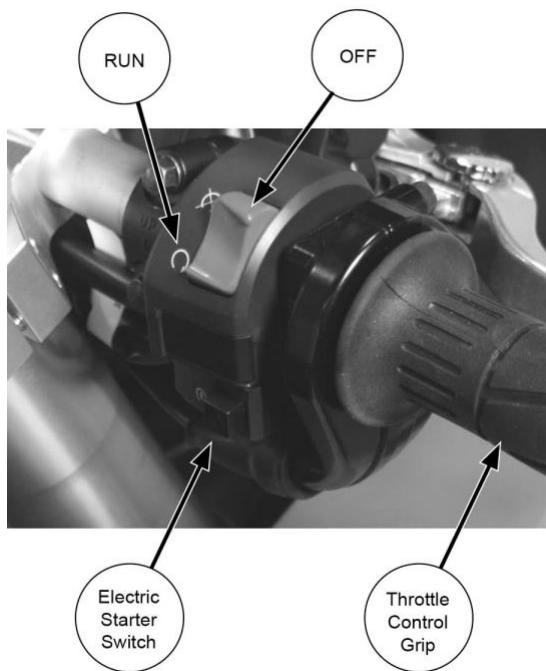

Figure 7. Right Handlebar switch.
See Figure 7. The electric starter switch is located on the right hand controls. Pushing in the electric starter switch engages the electric starter
See Figure 7. The engine OFF/RUN switch turns the ignition power on or off. The engine OFF/RUN switch is located on the right hand controls. Push the top portion of the engine OFF/RUN switch to turn off ignition power and shut the engine off. Push the bottom portion of the engine OFF/RUN switch to turn on ignition power.
1. See Figure 7. The throttle control grip is located on the right handlebar and is operated with the right hand. Turn throttle control grip clockwise (toward the front of the vehicle) to close the throttle and decelerate.